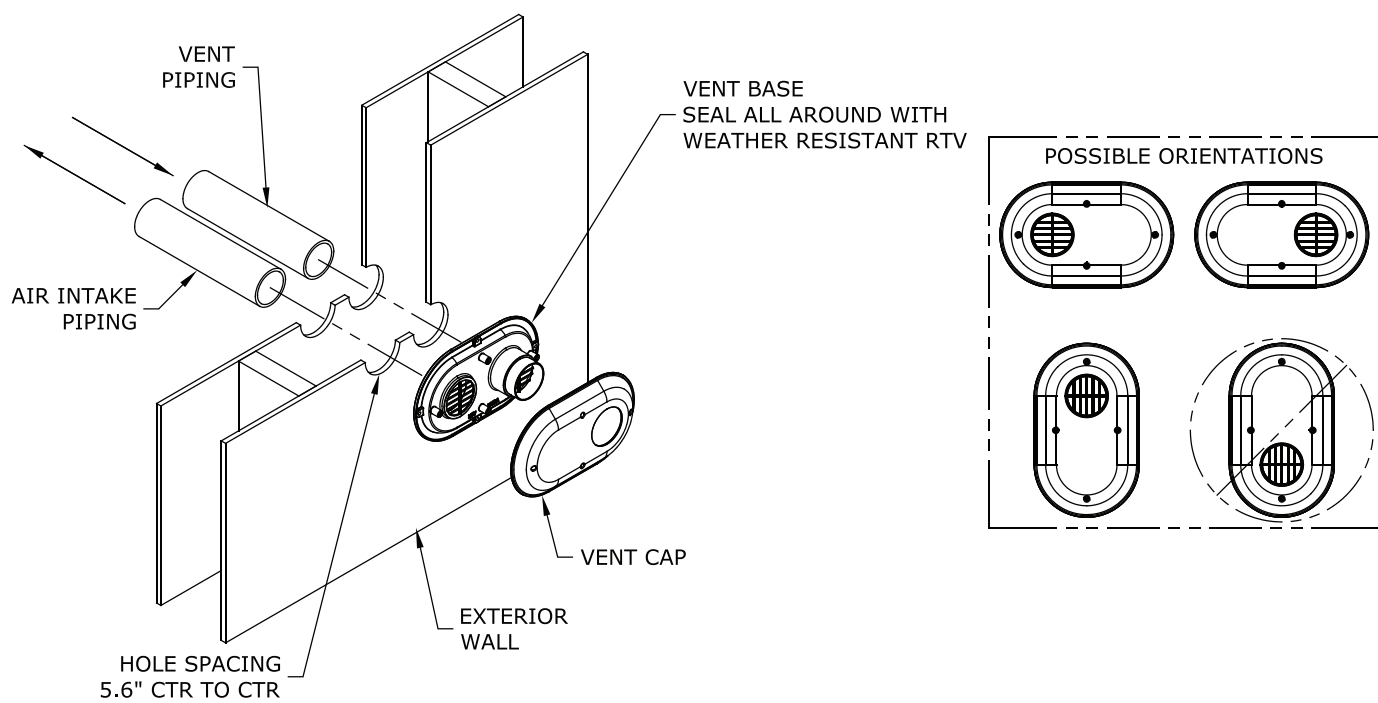

Figure 7.30: Installation of IPEX Low Profile Terminal Through Sidewall
5. Installation of IPEX low profile vent terminal (Terminal Option B) - See Figure 7.30: